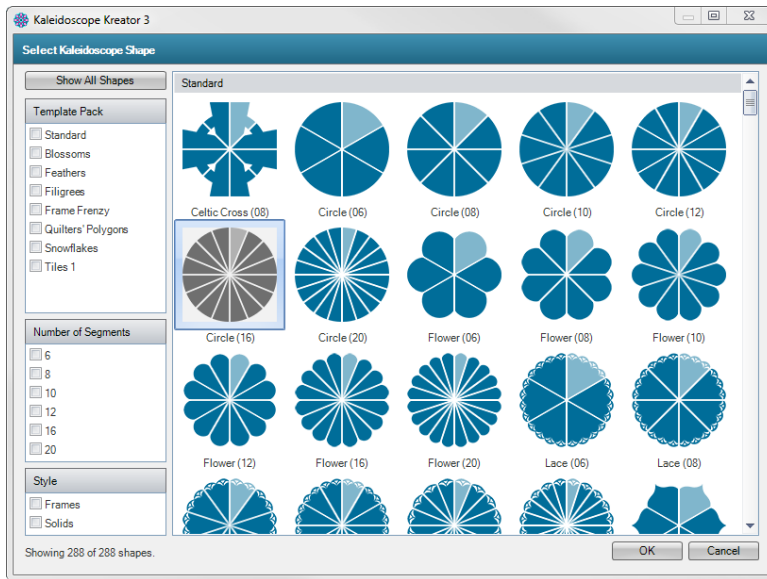

Figure 4
4. Choose a **Template Shape** by clicking on the **Select Kaleidoscope Shape** button in the **Toolbar**. I recommend a circle or square. You don't really want a fancy shape since you'll be creating the fancy design yourself. You just want something simple to doodle in. You can decide how wide of a wedge you want to doodle in by choosing the number of segments. I've chosen *Circle (16)* in the examples below. (Fig. 4)